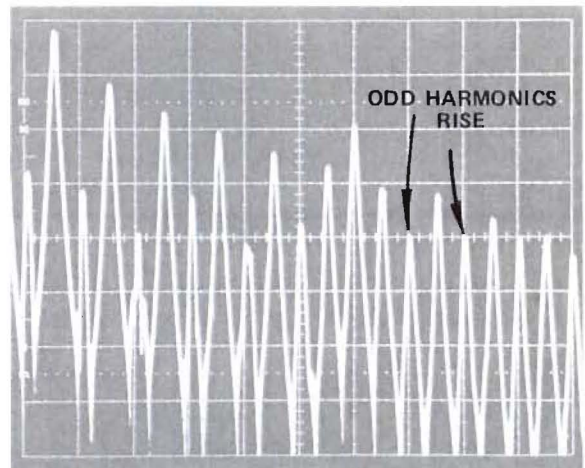

Figure 53 TIM Display in the Frequency Domain
7. Reconnect the amplifier and note that TIM may be observed as 1 kHz sidebands of the 6 kHz signal as shown in Figure 53.